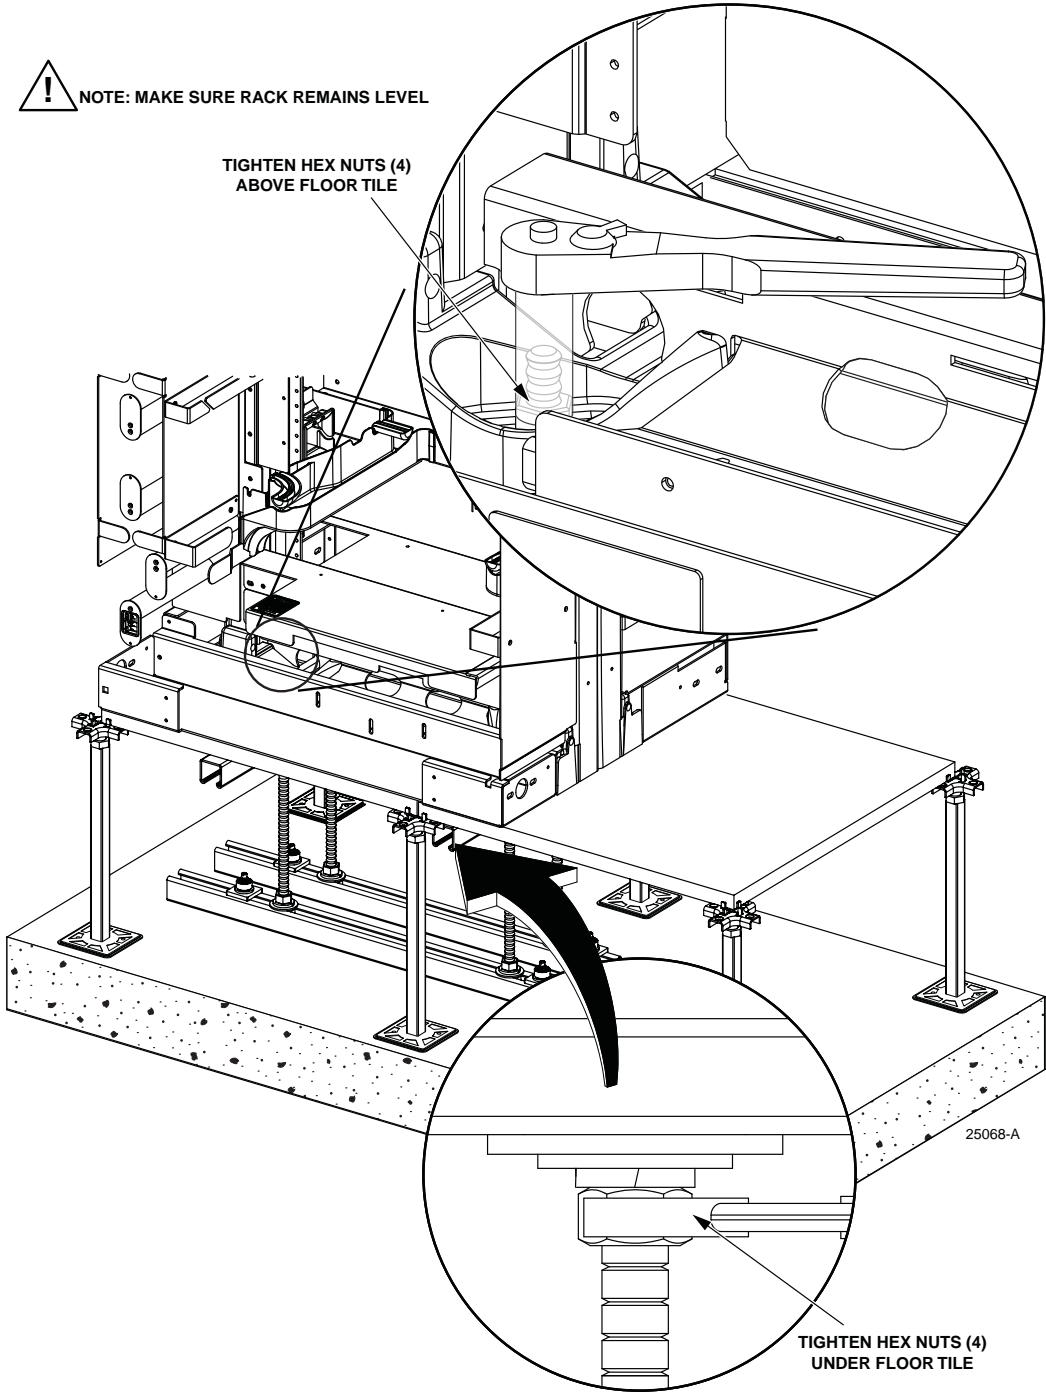

Figure 25. Tightening Hex Nuts 2
24. Use wrench (5/8-inch) to tighten hex nuts above floor tile (four places). Then fully tighten hex nuts under floor tile. Refer to Figure 25.